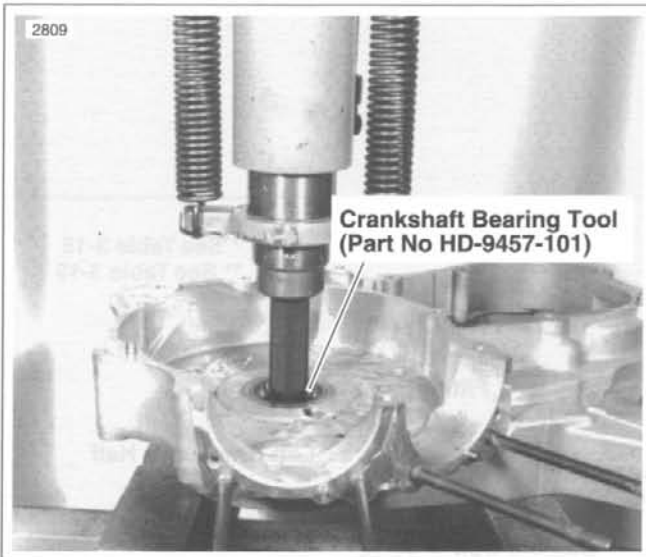

Figure 3-129. Sprocket Shaft Outer Race Removal
13. See Figure 3-129. Use CRANKSHAFT BEARING TOOL (Part No. HD-94547-101) to remove sprocket shaft outer races.